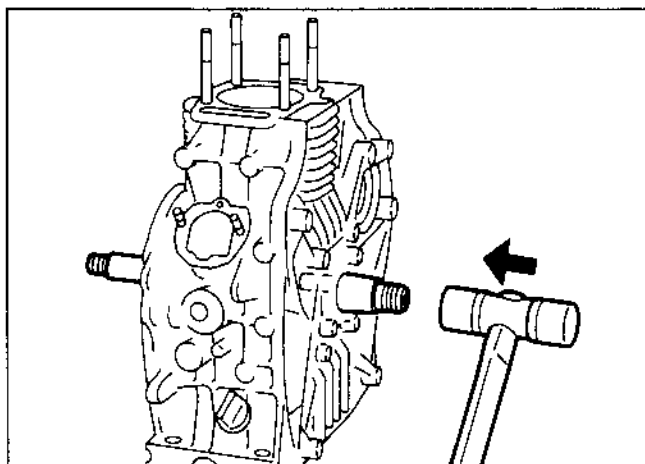

FIG. 38
| 23   | Crankshaft     | (1) Lightly tap the crankshaft end at the flywheel side using a plastic hammer to remove it from the crankshaft. (See Fig. 38.) | The ball bearing comes off with the crankshaft. |      |